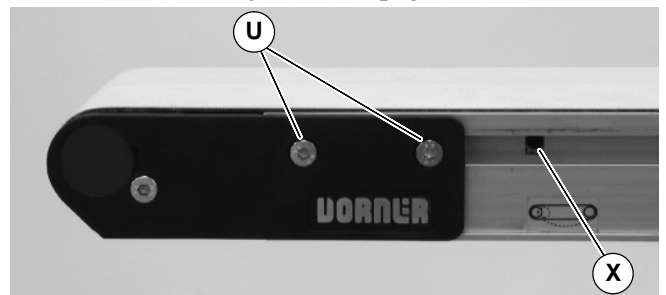

Figure 8
5. With a 5 mm hex-key wrench, rotate pinion gear (X of Figure 8) to tension the conveyor belt. Tighten fastening screws (U) on both sides of conveyor to 7 Nm. For proper tensioning, refer to “Conveyor Tension End Adjustment”, page 14.